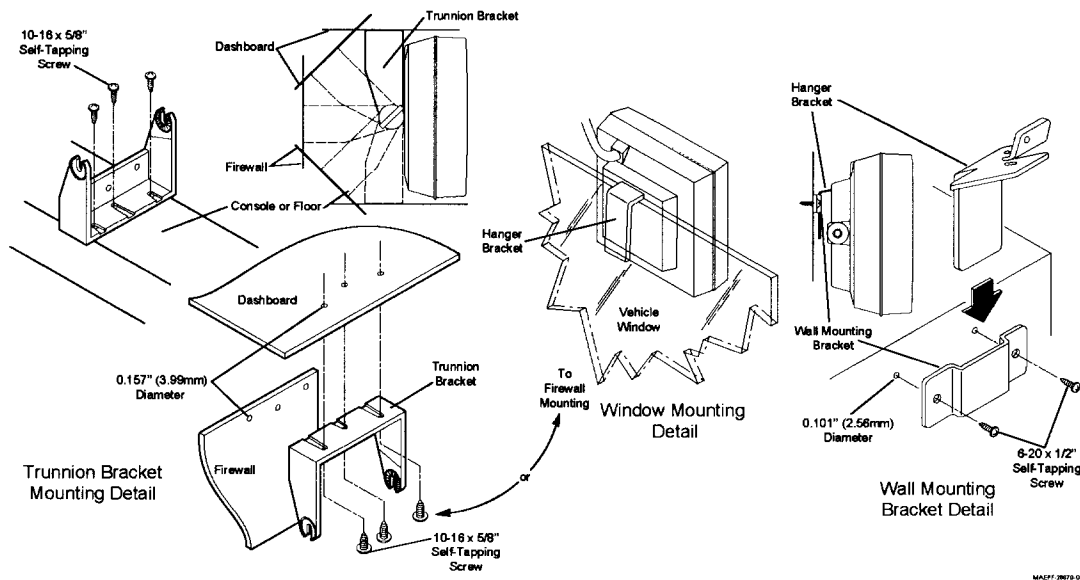

Figure 1. Physical Installation Details
- 1.1 The speaker/amplifier consists of a 6-watt integrated circuit amplifier and a 2.0 ohm speaker, enclosed in a rugged, weather -resistant housing. The housing is designed to be mounted either inside or outside (Please see the Window Mounting Bracket Detail, Figure 1) of a schoolbus, truck, emergency van, or other similar vehicle.
- 1.3 The speaker/amplifier includes a trunnion bracket, hanger bracket, and wall mount bracket. These brackets enable the speaker to be mounted in a variety of different ways. Refer to Figure 1.
- 2.2 Trunnion Bracket Installation Procedure (Refer to Figure 1.)
- 2.3 Wall Mount Bracket Installation Procedure (Refer to Figure 1.)